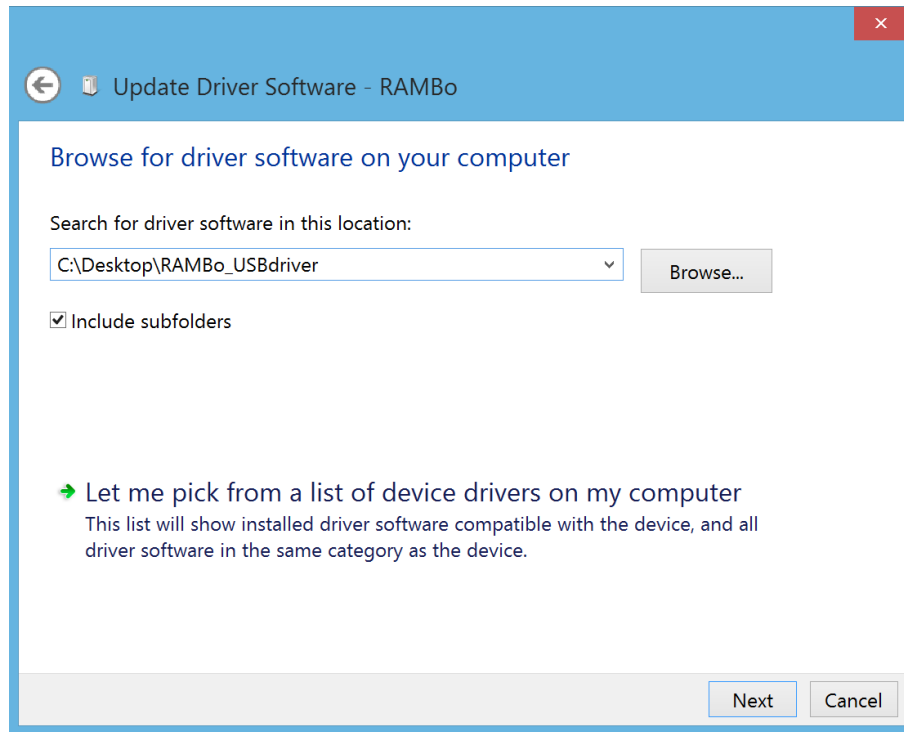

Figure 2.4: Allocate the location of driver file
6. In the popped up window, select the folder where you unzipped the archive file. In our case, the location is "C:\Desktop\RAMBo\_USBdriver". Then, click "Next". (Figure 2.4)